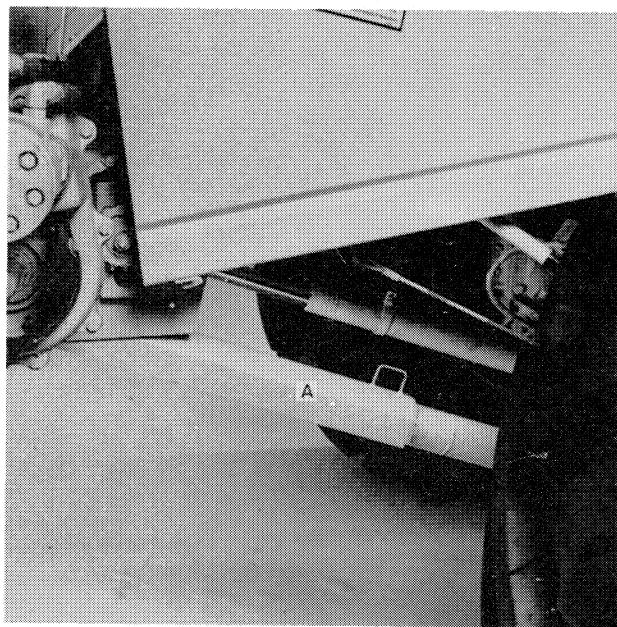

Figure 0-1
- C. LOWER THE CORN HEAD TO THE GROUND, OR RAISE THE HEAD COMPLETELY AND LOWER CYLINDER STOP, A, FIGURE 0-1. THIS STOP WILL PREVENT THE CORN HEAD FROM LOWERING.
10. NEVER DISCONNECT OR MAKE ANY ADJUSTMENTS TO THE HYDRAULIC SYSTEM UNLESS THE CORN HEAD IS LOWERED TO THE GROUND OR THE CYLINDER STOP IS IN THE DOWN POSITION AS SHOWN IN FIGURE 0-1.